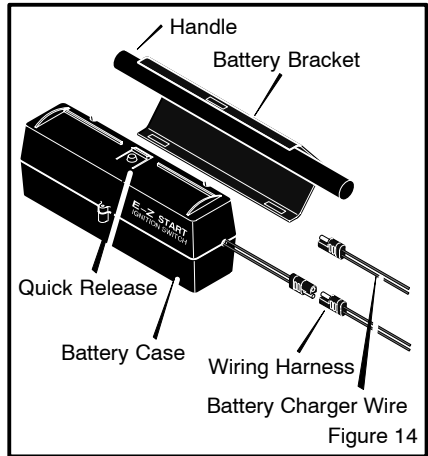

Figure 14
1. Disconnect the **wiring harness** from the battery (Figure 14).